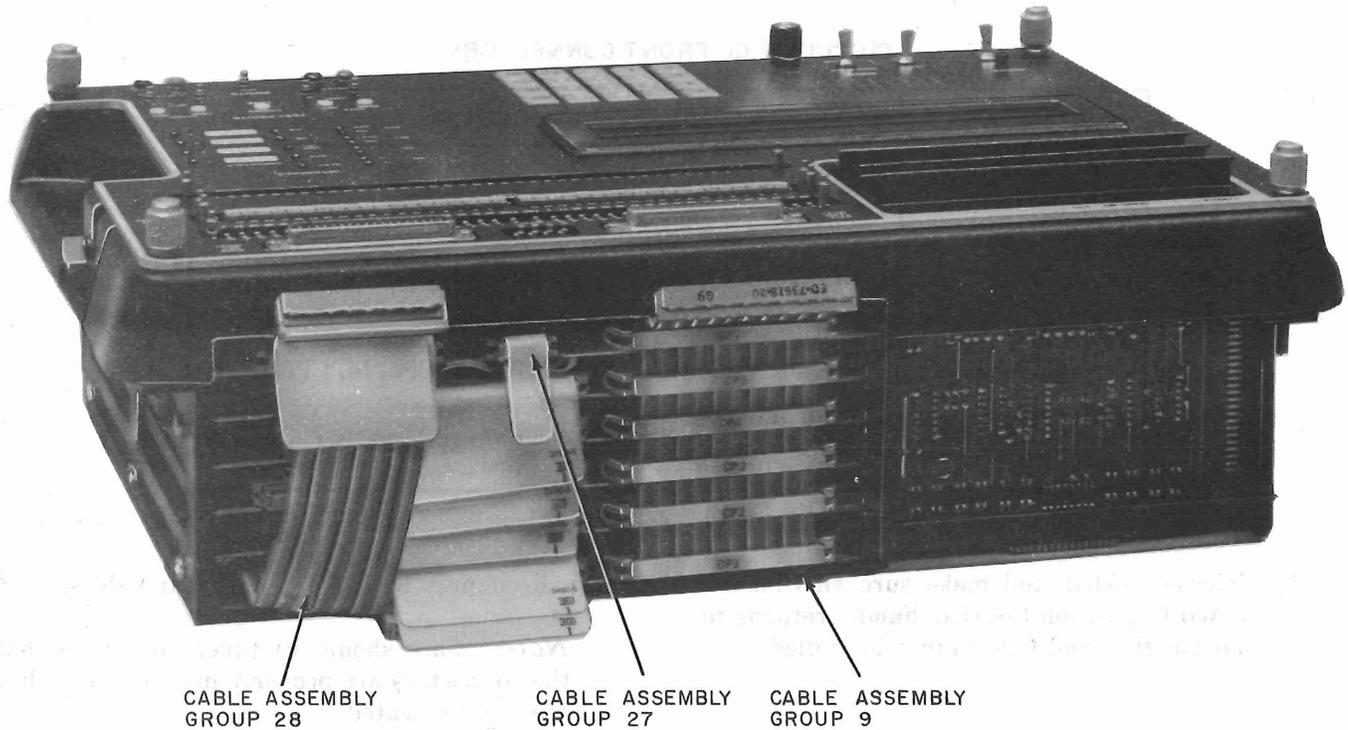

Fig. 7—921A DTS (Version 2) Removed From Case—Rear View
- (1) To remove CP11, first disconnect the uppermost connectors (CP5 and CP11) of cable assembly group 9, CP11 connector of cable assembly group 28, and CP11 connector of cable assembly group 27, all located at the rear of the framework (Fig. 7).
- (2) To remove other CPs (CP1—CP5), first disconnect cable assembly group 9, cable assembly group 27, and CP11 connector of cable assembly group 28, located at the rear of the framework (Fig. 7) using the cable connector extraction tool. Some early versions of the 921A DTS have “cable pulls” attached, as shown on cable groups 27 and 28 in Fig. 7. These do not require use of the extraction tool.